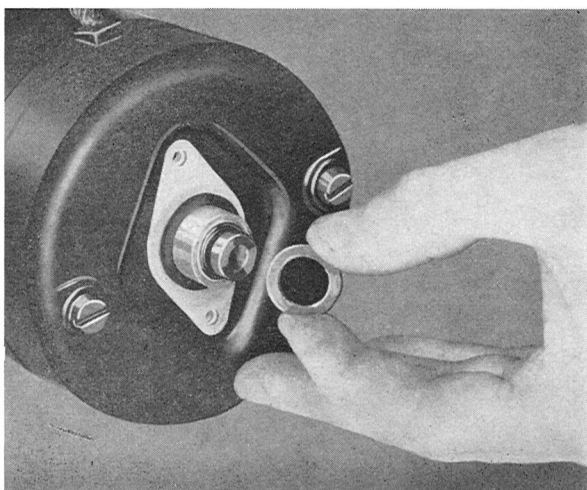

Fig. 3-80. Removing adjusting washers
5. Remove the brush bridge from the rotor shaft. NOTE: The washers are as shown in Fig. 3-80. When the bridge is removed, the negative brushes also follow, but the positive brushes will remain in the field winding.